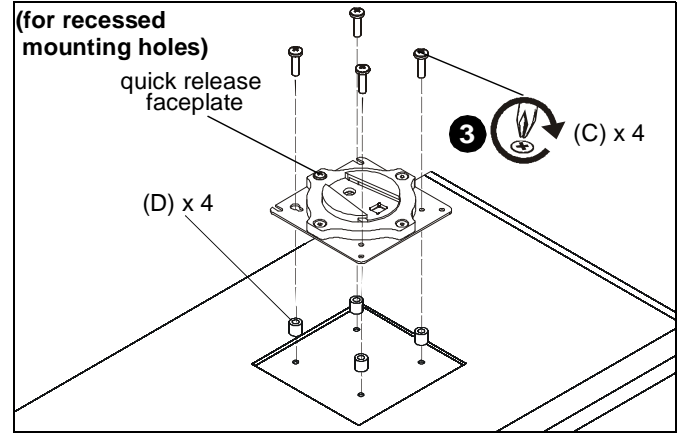

Figure 6
- Place four spacers (D) on top of mounting holes on back of display. (See Figure 6)
- Using Phillips screwdriver, carefully install four M4x20mm screws (C) through corresponding holes on faceplate, spacers (D) and into the mounting holes on the display. (See Figure 6)